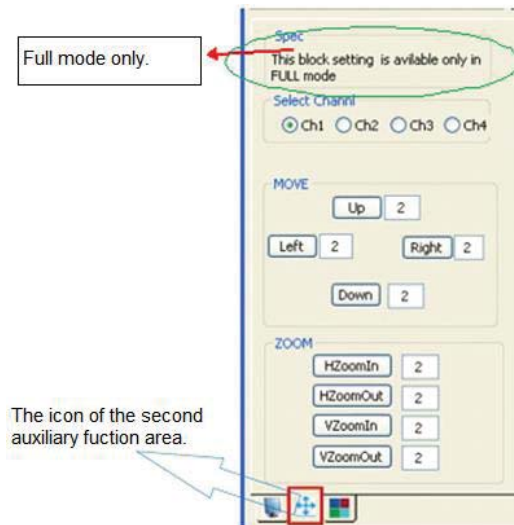

**Figure 23: First Auxiliary Function Area**
**First Auxiliary Function Area:** In this area, users can set the contrast, the brightness, add or remove the border of the output images. As shown in **Figure 23**.